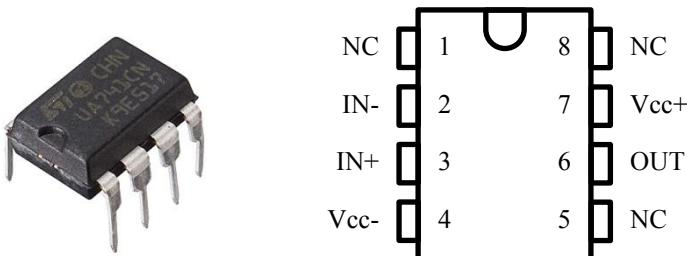
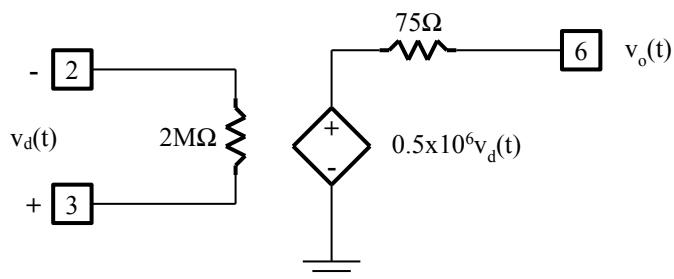
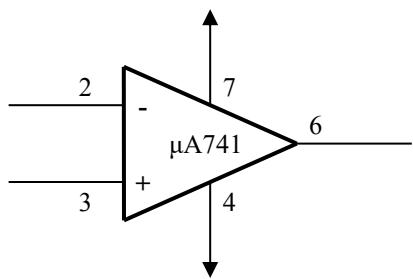

Figure 1.0a: Op-Amp Package View
Figure 1.0b: Op-Amp Equivalent Circuit View
Figure 1.0c: Op-Amp Symbolic View
This experiment examines the behavior of a general-purpose operational amplifier, μA741, as a circuit-building component. In addition, it investigates the mechanism of negative-feedback applied around the Operational Amplifier (Op-Amp). The characteristics of the two basic Op-Amp circuit configurations (inverting & non-inverting) are also investigated. **Figure 1.0a** shows the physical appearance of the μA741 Op-Amp. The Op-Amp is contained in an 8-pin integrated circuit package. The package contains 3 unused pins (pin 1, 5, and 8), two power pins (pin 4 and 7), 2 input pins (pin 2 and 3) and 1 output pin (pin 6). The equivalent circuit model of the Op-Amp contained in the 8-pin package is shown in **Figure 1.0b**. As shown, there is a $2\text{ M}\Omega$ input resistance between pin 2 and pin 3. The output of the Op-Amp (pin 6) is driven by a voltage-controlled voltage source. The controlling voltage for the source, $v_d(t)$, is the difference between the voltage applied to pin 3 and the voltage applied to pin 2. Note that the power pins (pin 4 and 7) provide the energy required by the voltage-controlled voltage source and are not directly shown in the model. Finally, **Figure 1.0c** shows the symbolic representation of the same Op-Amp circuit with the pin numbers from the physical packages labelled on their corresponding signals.
- (a)** Step 1: The circuit in **Figure 2.0** shows the pin identification for the μ A741 Op-Amp and the connections of the two dc-power supplies that are required for its operation. In particular, pin (2) is connected to the common ground (COM), while a triangular wave, voltage $v_i(t)$, is applied to pin (3), use the **Graph 1.0a** to show how the resulting voltage-transfer characteristics, [$v_o(t)$ vs $v_i(t)$], would look like, given that the output saturation voltages of the Op-Amp are $\pm 15V$ and the equivalent-circuit model of the Op-Amp is shown in **Figure 1.0b**.
- ii) Use the equivalent-circuit model of the μ A741 shown in **Figure 1.0b** instead to find A_v .